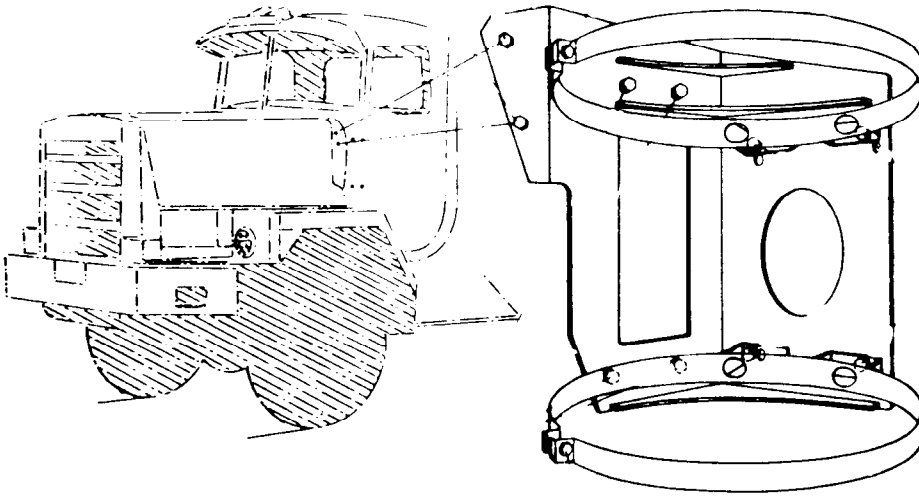

FIG 4 - FITTING OF LEFT HAND AIR CLEANER
- (5) Dress the reworked area and paint in accordance with WKSP B 700.
- (6) Replace the existing air cleaner mounting bracket with item 3 from Table 1.
- (7) Referring to Fig 4, fit the air cleaner and clamps using the inner set of holes and ensuring that the pinch bolt lugs are oriented towards the bonnet by mounting them in the reverse direction.